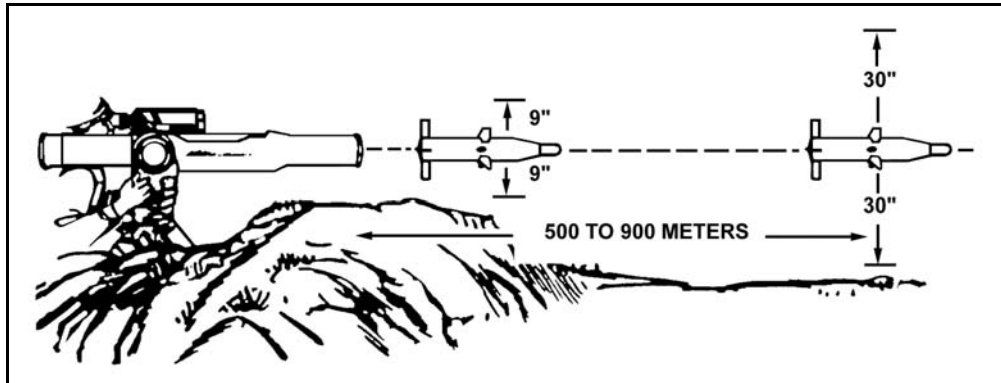

Figure B-29. Clearance requirements.
- **Clearance Requirements.** The TOW muzzle must have at least nine inches of clearance at the end of the launch tube so the wings and control surfaces of the missile will not be damaged when they extend after clearing the launch tube. The muzzle of the launch tube must extend beyond any enclosure, window sill, or aperture. It must also have at least 30 inches of clearance between the line of sight and any obstruction from 500 to 900 meters downrange. A 30-inch line-of-sight clearance ensures a high probability the missile will not strike the ground on the way to the target (Figure B-29).